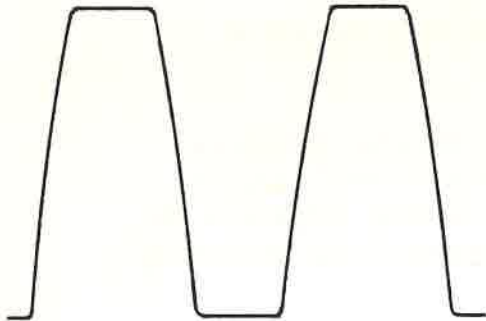

FIGURE 1-4a
4. Adjust the X1 trimmer until the pattern obtained in Figure 1-4a appears.